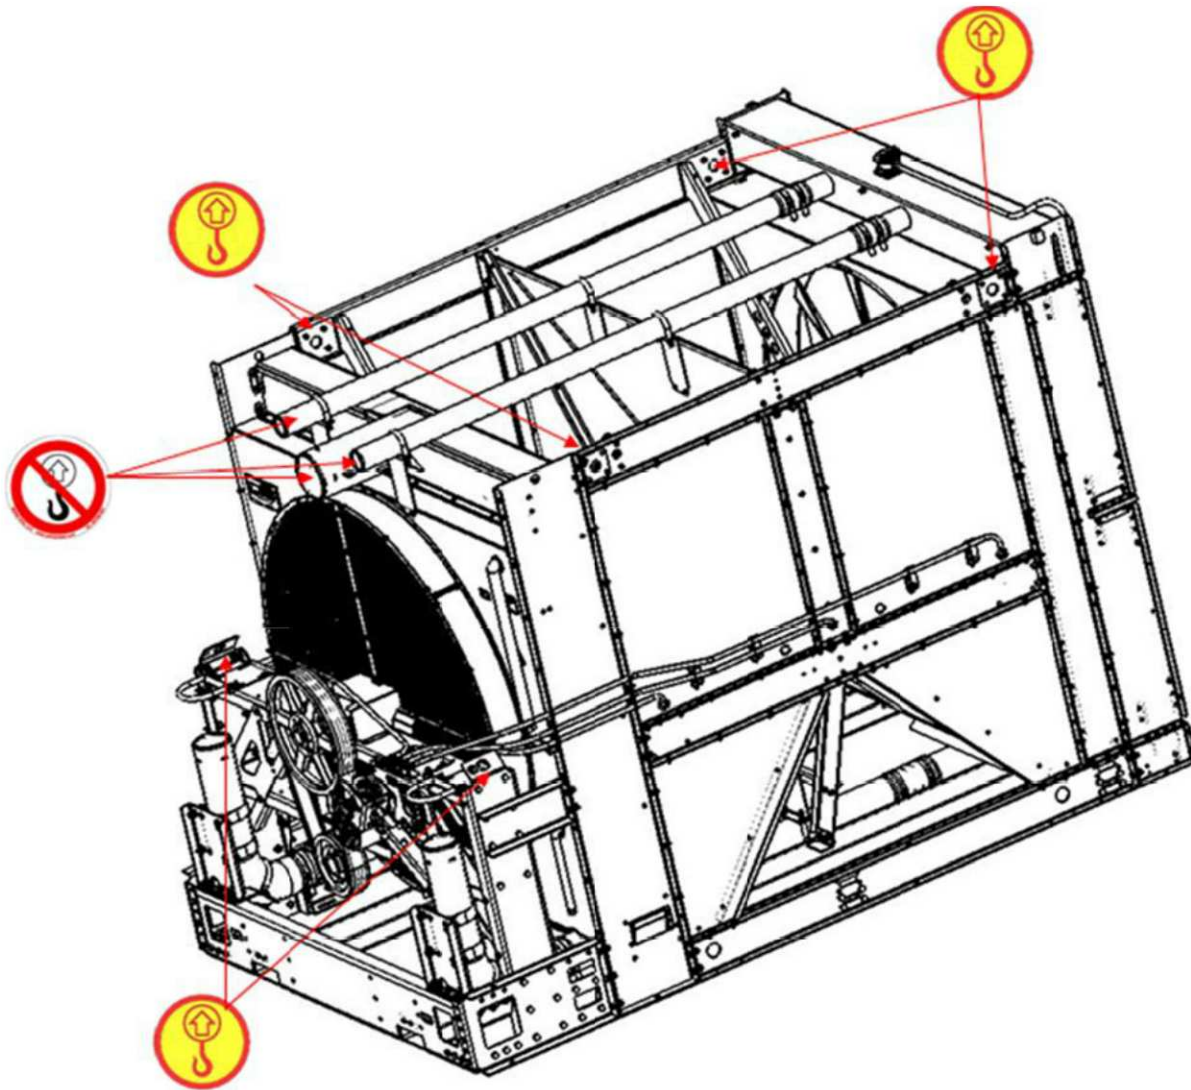

Figure 3: Lifting Provisions
- 4.3.3 Use the lift points provided (Refer to **Figure 3**).
- 4.3.7 Use lifting points provided if using an overhead crane (Refer to **Figure 3**).